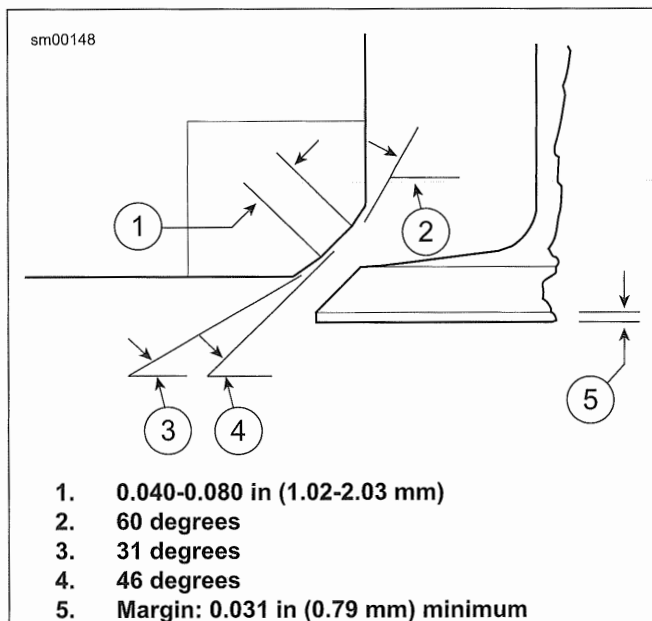

Figure 4-33. Valve and Seat Dimensions
- See Figure 4-33. Replace the valve if margin (5) is less than 0.0313 in (0.795 mm).